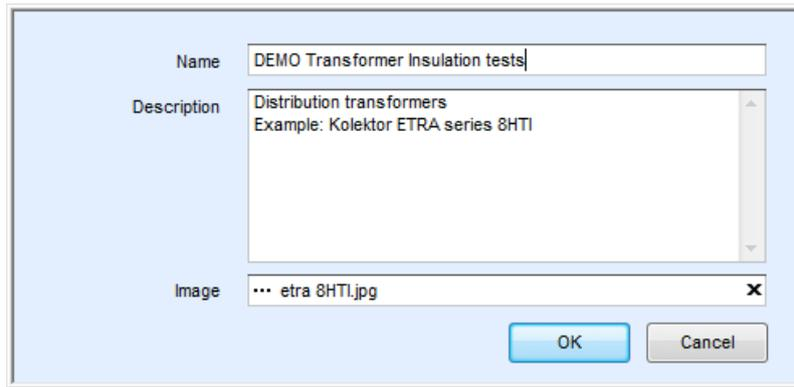

Figure C.6: Editing the Auto Sequence® header
**Auto Sequence®:** Edit Name, Description and Image (see Figure C.6).
When EDIT function is selected on Auto Sequence®, menu for editing presented on Figure C.6 appear on the screen. Editing options are: